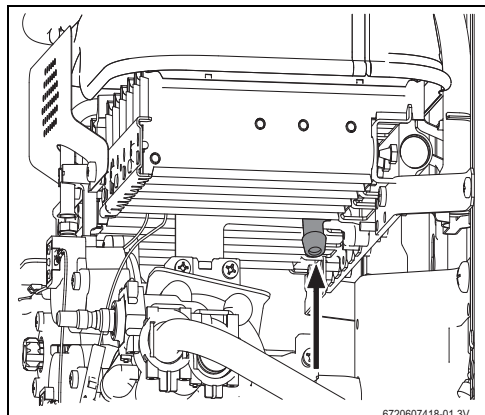

Fig. 18 Pressure measurement point
- ▶ loosen the burner test point captive screw (Fig. 18).